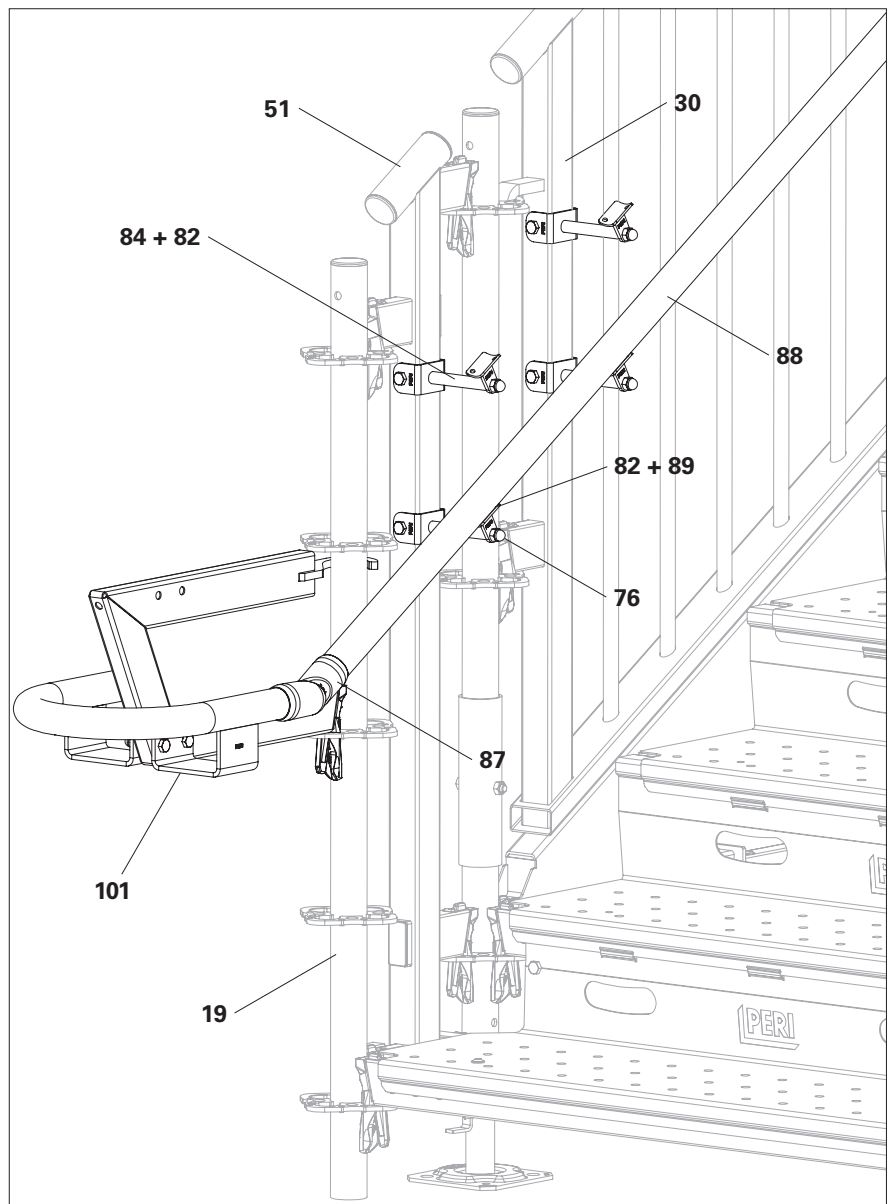

Fig. D3.02
1. Tap the handrail start (module) (101) into the rosettes on the Top Standard UVH-2 125 (19).
2. Bolt 2 x Handrail Support Guard PESG (84) with Handrail Bracket sym PEBS (82) onto Height Adjustment PAH 1 (51) and 2 x 3 onto Guardrail PPG (30).
3. Attach the cut-to-size Handrail Tube PEHT (88) with Handrail Joint PEHJ (87) to the handrail start (101), align and place on the handrail bracket.
4. Rivet the handrail tube (88) to the handrail bracket (82) using a 6.0x10 steel rivet (89).
5. Screw the cap nut (76) tightly onto the handrail support. (Fig. D3.02)